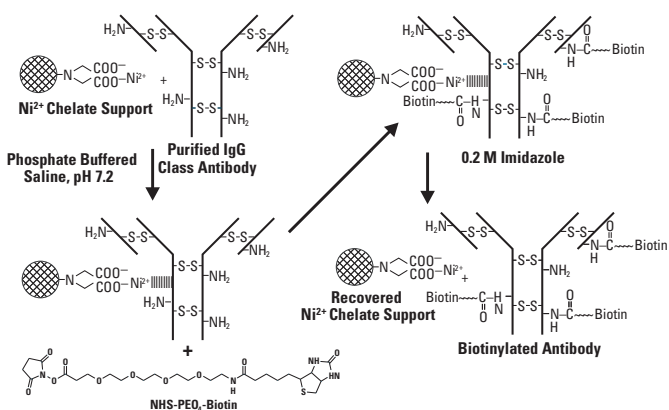

Figure 5. Solid-phase protocol summary for labeling amines.
- **Fast labeling and purification** – the entire procedure takes only one hour (two hours for sulfhydryl labeling kits) (Figure 5)